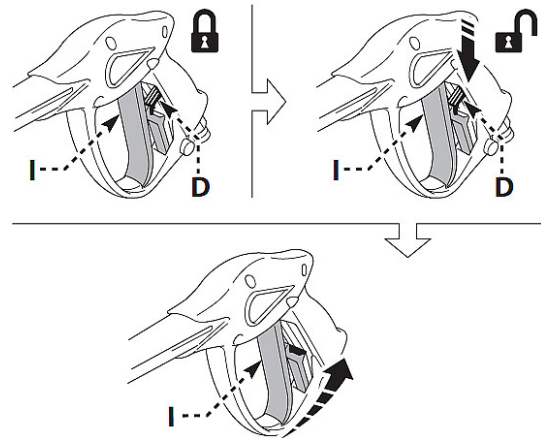

Fig. 9: Unlocking the spray gun
Step 3: Release the safety catch (Pos. D, Fig. 9).
Step 3: Engage the safety catch (Pos. D, Fig. 9).
Step 1: Release the safety catch (Pos. D, Fig. 9).